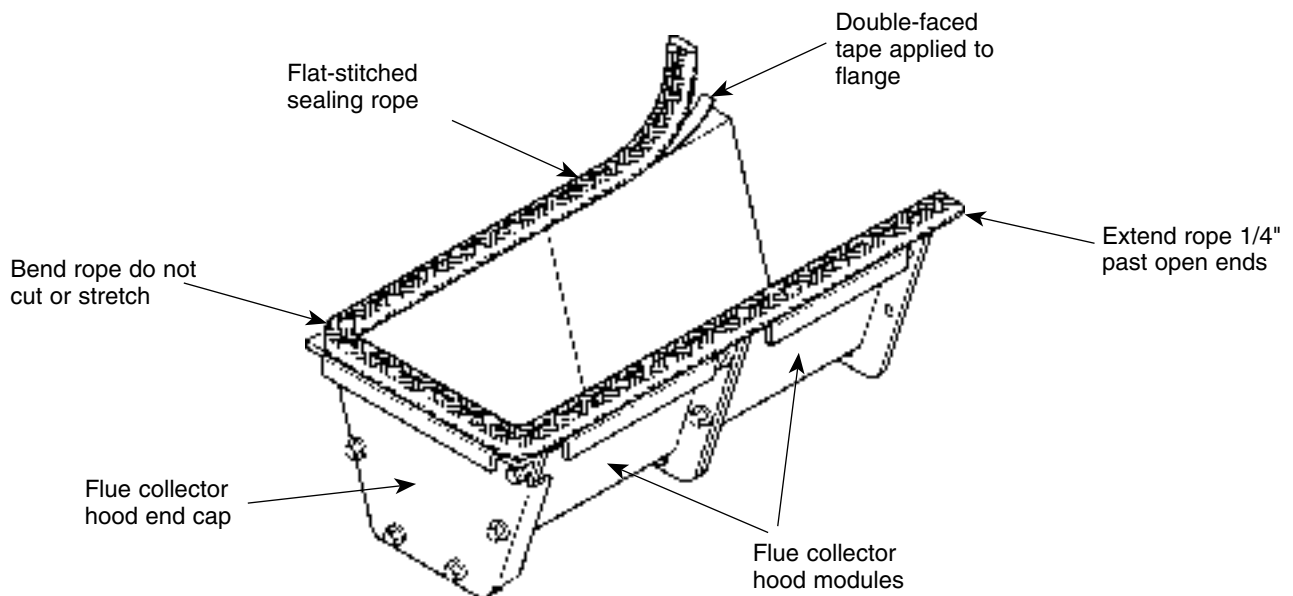

Figure 9 Sealing Rope Application on Collector Hood Assembly
6. Attach flat-stitched sealing rope to hood assembly. See Figure 9: